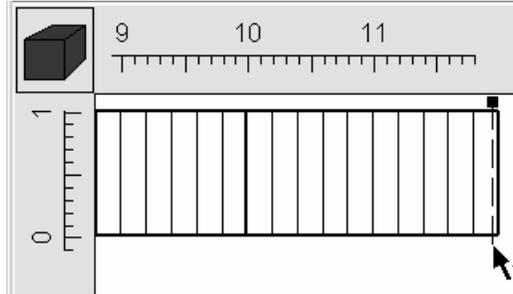

Figure 37. Drawing a line to represent a specified head boundary on the right side of the top view of the model.
- The next step is to create the specified head boundary on the right side of the model (fig. 37). Select **View|GoTo...** and change to the **Element** tab. Uncheck the checkboxes for **Front** and **Side**. Change **Column** to 60 and click the **OK** button. The right end of the model should now be visible in the top view of the model. Again select **Object|Create Straight Line** and draw a